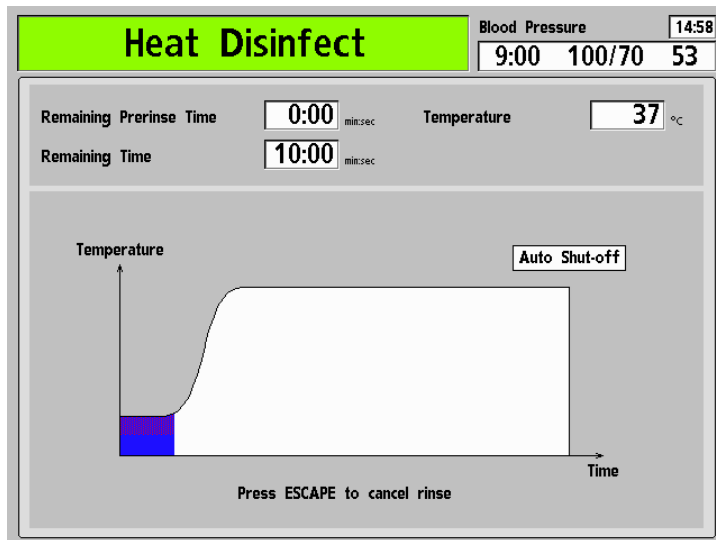

Figure 60 – The Heat Disinfection Screen
2. From the “Select Program” screen, select **Heat Disinfect** and press the **CONFIRM** key to start the Heat Disinfect program. The “Heat Disinfect” screen appears in the control panel display (see Figure 60). If the machine was not rinsed prior to this, it will automatically run a short rinse (seven minutes) or an extended rinse (20 minutes) depending on how the machine was configured in Service Mode.